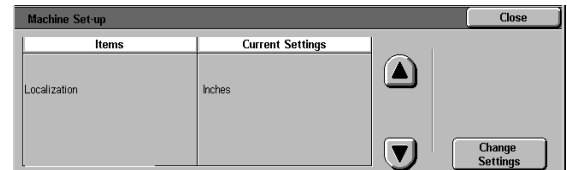

Figure 9: Machine Set-up screen
- 1 On the Tools screen, touch the **Machine Set-up** button. The Machine Set-up screen is displayed, as illustrated in Figure 9.